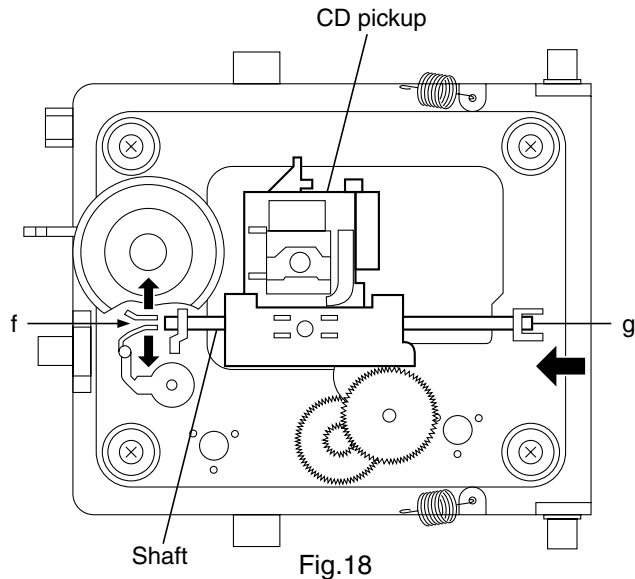

Fig.18
■ Removing the CD pickup (See Fig.18)